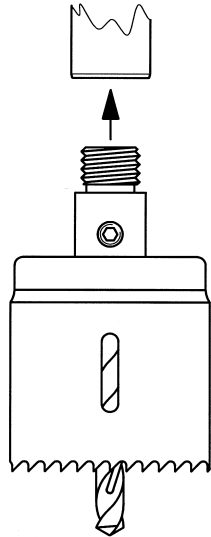

Figure 5
- Set up the arbor hole saws with the pilot drill in the chuckshaft. Screw the hole saw matching the threaded outlet of the branch connection into the arbor hole saw. See *Figure 5*.